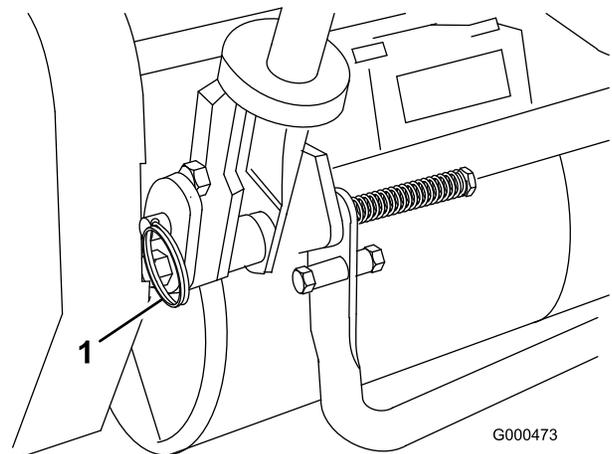

Figure 11
1. Remove hairpin cotters from ring pins on each side of mower (Figure 11).
2. While supporting handle, remove ring pins from each side and raise or lower handle to desired operating position (Figure 11).